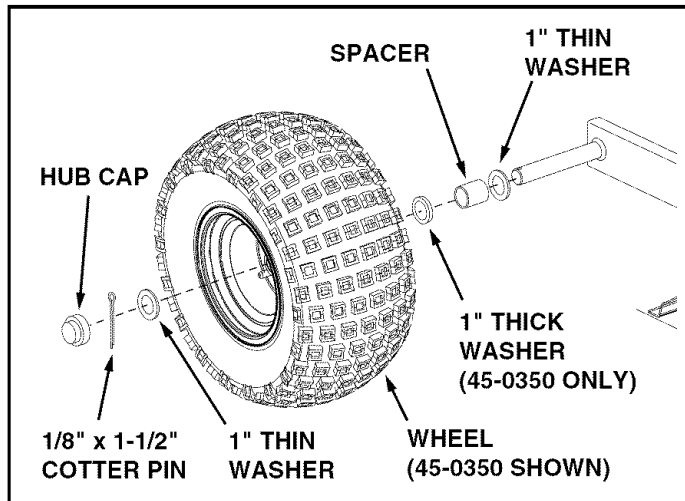

FIGURE 12
22. Assemble a 1" thin washer, a spacer, a 1" thick washer (model 45-0350 only), a wheel with the valve stem facing out, and another 1" thin washer onto a wheel axle. Insert a cotter pin into the axle and spread the ends. Repeat for the other three wheels. See figure 12.
23. Press a hub cap onto the flat washer on each of the four wheels. See figure 12.